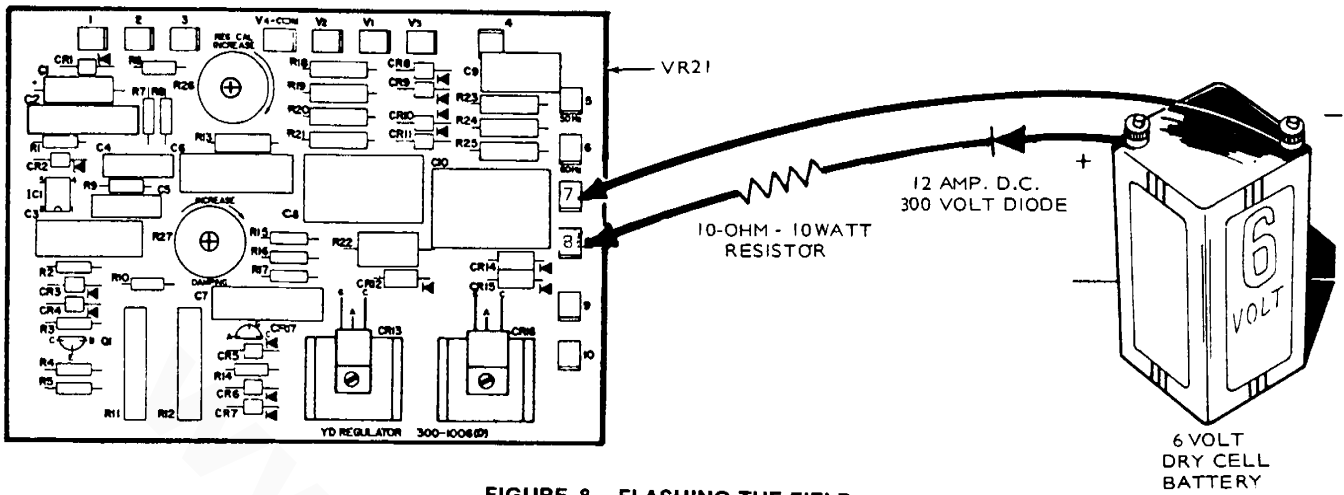

FIGURE 8. FLASHING THE FIELD
- Use a six volt dry cell battery with two clip leads, a 12 amp DC, 300 volt avalanche diode, and a 10-ohm resistor as shown in Figure 8. If a six volt battery is not available, a 12 volt automotive battery can be used by increasing the 10-ohm resistance to 20-ohms; or a 24 volt automotive battery can be used by increasing the resistance to 40-ohms.